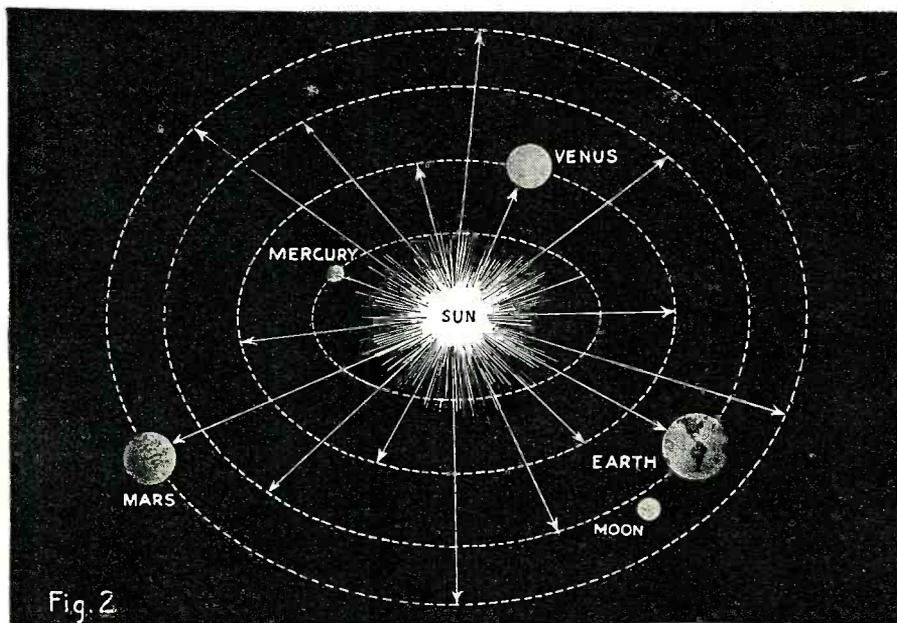

Fig. 2
Fig. 2. Dr. Alexanderson in his laboratory indicating the seven light-spots, which are used in the method proposed by him for television. In the foreground is the drum on which are mounted the mirrors, with the motor for rotating it. A system of lenses may be seen, together with an arc light.
Fig. 1 shows the interior of a vacuum tube where (1) is the filament, E is the stream of electrons going in the direction of the arrows, (2) is the grid, (3) is the plate. The small dots surrounding the grid and plate indicate a layer of gas always adhering to metals, which the electrons must pierce. This shows, therefore, a miniature Heavside layer. Fig. 2 shows a "celestial" vacuum tube, in which the sun gives off the electronic stream in the direction of the arrows. The various planets may be taken respectively as plates and grids in a multi-element tube; while the atmospheres of the planets are analogous to the gas adhering to the plate and grid, as shown in Fig. 1. Figs. 6 and 7 are two views of the Marconi Beam Transmitter, located at South Foreland, near Dover, England. It revolves, transmitting a radio signal over a very small angle at one time, and is in use as a radio "lighthouse," aiding navigation.
electrons, this internal tube "Heaviside layer" can be broken down as is well known. Conditions on earth seem to be similar. If we employ the right radio wave, with sufficient power behind it, it should be possible to pierce the supposed Heaviside layer and shoot the waves out into free space. In this we would be assisted by the force of the solar radiation itself. This is made plain in Fig. 2, which shows that our own planetary system is nothing but a vacuum-tube arrangement on a large scale. We have the sun in the center, with the planets outside, which in this case become the plate and grid of our celestial vacuum tube.